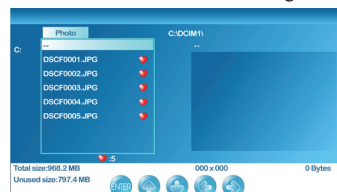
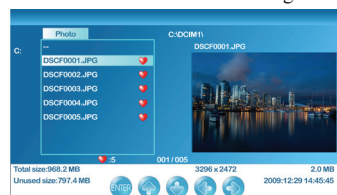

Figure 2
Figure 3
3. Return to main menu, press ▲ or ▼ to "--" and press ENTER (See Figure 2). Use ▲ or ▼ to select the image files you want, and press ENTER (See Figure 3).